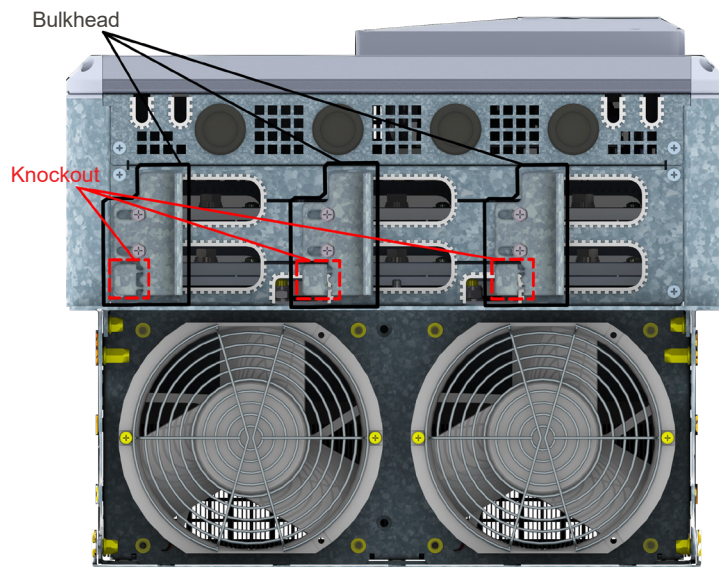
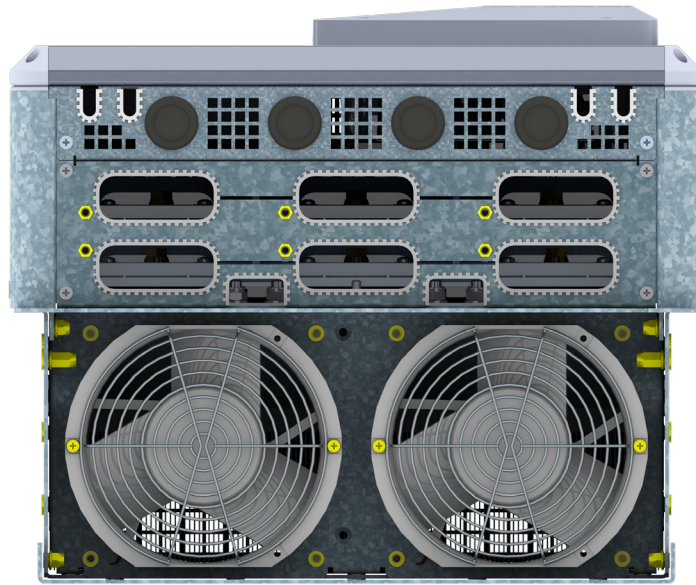

Figure 3.16: Mounting 1, 2 and 3
Figure 3.18: Mounting 8
To ensure the IP20 protection rating in frame G, the following adaptations must be made to the power and ground connections, as shown in Table 3.4 on page 31 and Figure 3.16 on page 32 to Figure 3.18 on page 33.
| CFW900G0430T4 | HD                 | 370 | 2   | 250             | 120                          | 2                 | 3               | 35                           | 1 - With bulkhead, keep knockout (See <a href="#">Figure 3.16 on page 32</a> )   |
|               | ND                 | 430 | 2   | 300             | 150                          | 2                 | 2               | 35                           | 2 - With bulkhead, keep knockout (See <a href="#">Figure 3.16 on page 32</a> )   |
| CFW900G0480T4 | HD                 | 430 | 2   | 300             | 150                          | 2                 | 2               | 35                           | 3 - With bulkhead, keep knockout (See <a href="#">Figure 3.16 on page 32</a> )   |
|               | ND                 | 601 | 3   | 250             | 150                          | 2                 | 2/0             | 70                           | 8 - No bulkhead (See <a href="#">Figure 3.18 on page 33</a> )                    |
| CFW900G0242T6 | HD (2)  | 192 | 2   | 1               | 50                           | 2                 | 8               | 10                           | 9 - With bulkhead, keep knockout (See <a href="#">Figure 3.16 on page 32</a> )   |
|               | ND (2)  | 242 | 2   | 2/0             | 70                           | 2                 | 6               | 16                           | 10 - With bulkhead, keep knockout (See <a href="#">Figure 3.16 on page 32</a> )  |
| CFW900G0289T6 | HD (2)  | 242 | 2   | 2/0             | 70                           | 2                 | 6               | 16                           | 11 - With bulkhead, keep knockout (See <a href="#">Figure 3.16 on page 32</a> )  |
| CFW900G0242T6 | HD (3)  | 167 | 2   | 2               | 35                           | 2                 | 8               | 10                           | 15 - With bulkhead, keep knockout (See <a href="#">Figure 3.16 on page 32</a> )  |
|               | ND (3)  | 215 | 2   | 1/0             | 50                           | 2                 | 6               | 16                           | 16 - With bulkhead, keep knockout (See <a href="#">Figure 3.16 on page 32</a> )  |
| CFW900G0289T6 | HD (3)  | 215 | 2   | 1/0             | 50                           | 2                 | 6               | 16                           | 17 - With bulkhead, keep knockout (See <a href="#">Figure 3.16 on page 32</a> )  |
|               | ND (3)  | 265 | 2   | 2/0             | 70                           | 2                 | 4               | 25                           | 18 - With bulkhead, keep knockout (See <a href="#">Figure 3.16 on page 32</a> )  |
| CFW900G0336T6 | HD (3)  | 264 | 2   | 2/0             | 70                           | 2                 | 4               | 25                           | 19 - With bulkhead, keep knockout (See <a href="#">Figure 3.16 on page 32</a> )  |